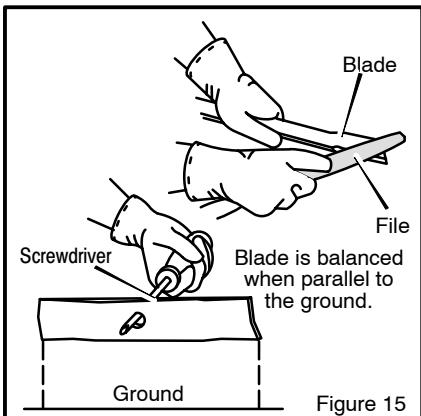

Figure 15
4. Sharpen the **blade** with a **file**. Make sure you keep the original beveled cutting edge (Figure 15).